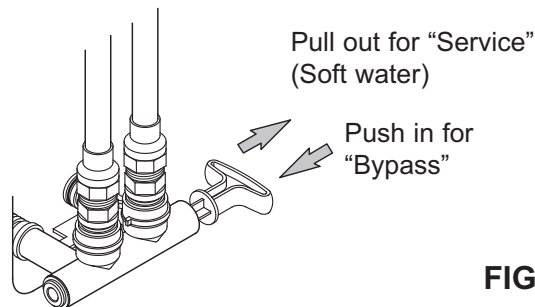
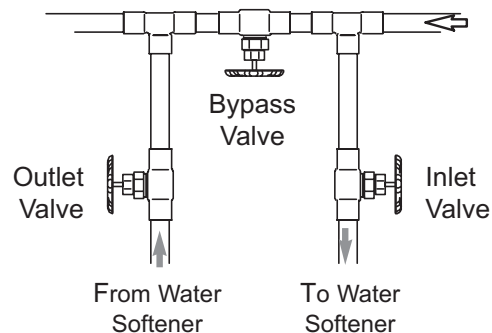

FIG. 7
FIG. 8
Always install either a single bypass valve (provided), as shown in Figure 7, or, if desired, parts for a 3 valve bypass system (not included) can be purchased and assembled, as shown in Figure 8. Bypass valves allow you to turn off water to the softener for maintenance if needed, but still have water in house pipes. Pipe fittings must be 3/4" minimum.
**CAUTION:** The house cold water pipe (metal only) is often used as a ground for the house electrical system. The 3-valve bypass type of installation, shown in Figure 8, will maintain ground continuity. If you use a plastic bypass valve at the unit, continuity is broken. To restore the ground, do the following:
2. Place the bypass valve (single or 3 valve) into the "bypass" position. See Figures 7 & 8 on Page 7.